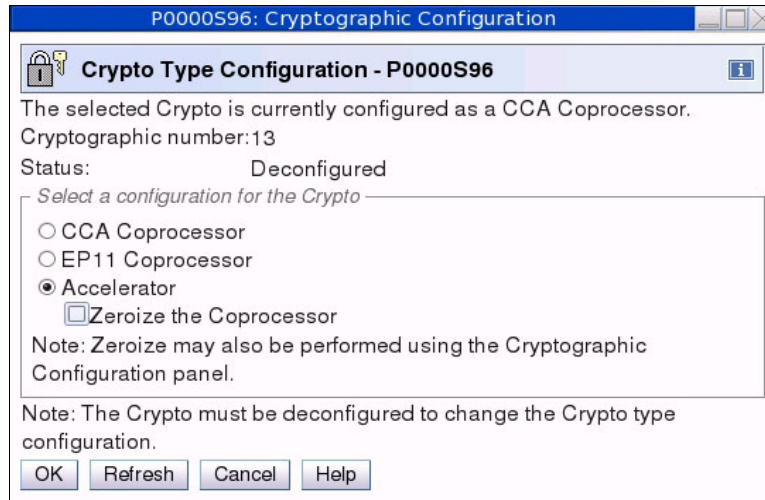

Figure 10-12 SE: Crypto Type Configuration (CCA coprocessor to Accelerator)
2. The reconfiguration is enabled only for PCI-X adapters that are Off. Therefore, be sure that the PCI-X Cryptographic adapter status for that cryptographic coprocessor channel is deconfigured (Figure 10-12 on page 557). If necessary, set the PCI-X Cryptographic adapter to Off for all partitions that have it in their candidate list. To set the PCI-X Cryptographic adapter to Off, use the procedure described in “Configuring a Crypto Express5S online or offline on a logical partition” on page 562.
4. Change the configuration for the cryptographic coprocessor adapter. The selected cryptographic coprocessor channel is configured as a coprocessor (Figure 10-12 on page 557). Select **Accelerator**.
The procedure for changing the type of the cryptographic configuration from an accelerator to a coprocessor is now complete. To change the accelerator back to a coprocessor, the same procedure can be used, but select **Coprocessor** instead of **Accelerator**, as shown in Figure 10-12 on page 557.
2. The reconfiguration is enabled only for PCI-X adapters that are set to **Off**, so be sure the PCI-X Cryptographic adapter status for that cryptographic coprocessor channel is unconfigured (Figure 10-12 on page 557). If necessary, set the PCI-X Cryptographic adapter to **Off** for all partitions that have it in their candidate list. To set the PCI-X Cryptographic adapter to **Off**, use the procedure described in “Configuring a Crypto Express5S online or offline on a logical partition” on page 562.